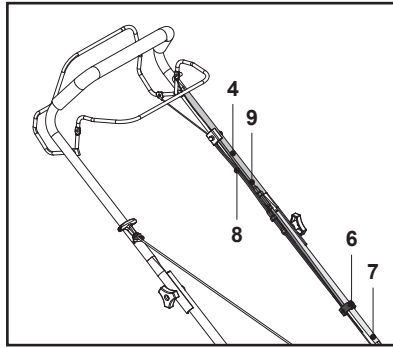

Fig. 3
4. Repeat the above steps on the other side of upper handle bar (4).
5. Make sure that the pre-assembled hook for recoil starter handle (26) rest on your right-hand side (when viewed from operator's position).
6. Make sure that the self-propelling wire (8) and the brake wire (9) run on the upper side of the handle bars (4, 7).
7. Attach the wires (8, 9) with the wire clip (6) on the left-hand side of the lower handle bar (7) (when viewed from operator's position) (Fig. 3).